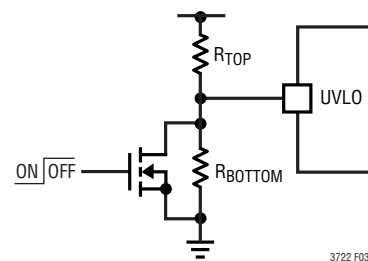

Figure 3. System UVLO Setup
The LTC3723-1/LTC3723-2 provides undervoltage lockout (UVLO) control for the input DC voltage feed to the power converter in addition to the V_{CC} UVLO function described in the preceding section. Input DC feed UVLO is provided with the UVLO pin. A comparator on UVLO compares a divided down input DC feed voltage to the 5V precision reference. When the 5V level is exceeded on UVLO, the SS pin is released and output switching commences. At the same time a 10 μ A current is enabled which flows out of UVLO into the voltage divider connected to UVLO. The amount of DC feed hysteresis provided by this current is: $10\mu A \cdot R_{TOP}$, (Figure 3). The system UVLO threshold is: $5V \cdot \{(R_{TOP} + R_{BOTTOM})/R_{BOTTOM}\}$. If the voltage applied to UVLO is present and greater than 5V prior to the V_{CC} UVLO circuitry activation, then the internal UVLO logic will prevent output switching until the following three conditions are met: (1) V_{CC} UVLO is enabled, (2) V_{REF} is in regulation and (3) UVLO pin is greater than 5V.
UVLO can also be used to enable and disable the power converter. An open drain transistor connected to UVLO as shown in Figure 3 provides this capability.